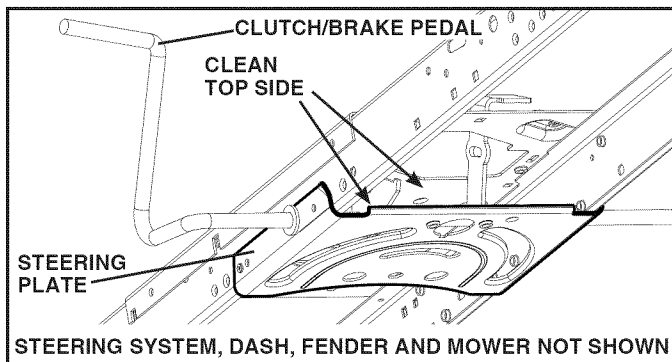

Fig. 25
- Clean debris from steering plate. Debris can restrict clutch/brake pedal shaft movement, causing belt slip and loss of drive. See Fig. 25.